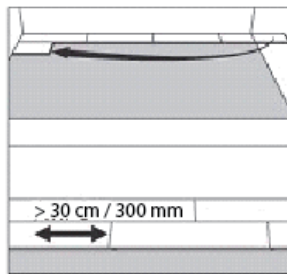

Figure 2
5. Cut the final board piece to length, never less than 300mm. (Figure 2)
2. Position the long side of the first board in place overlapping the groove of the planks in the previous row by approximately 3mm. Then angle the end/header joint into the previous plank. Angle the plank up and gently push forward until the plank locks into the previous row. (Figure 2) Slide the board to the left/right as necessary to align the edges of the end joint.
7. Whenever practical, use cut pieces from previous rows as the starter board to reduce waste. (Figure 2)
8. Maintain 300mm spacing between end joints or in the tile pattern of 900/600/300 or 900/450mm. (Figure 2)